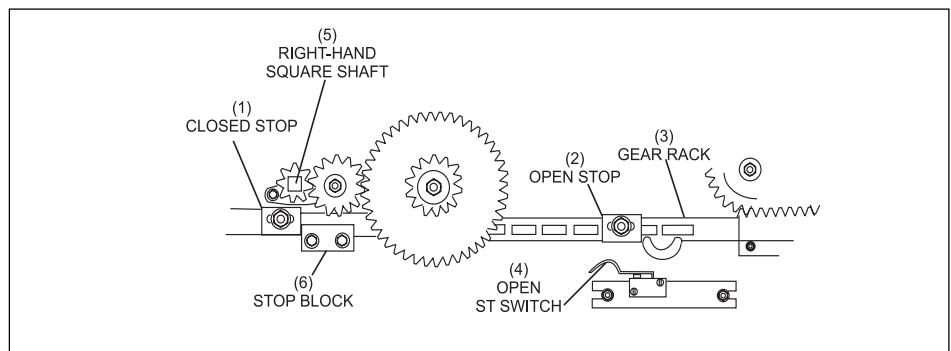

Figure 8-11. Spotting Tongs Open.
4. Turn the spotting tong square shaft until the spotting tongs are completely closed. The "ST" switch should be open and the closed stop should be against the stop block. Refer to *Figure 8-11*.